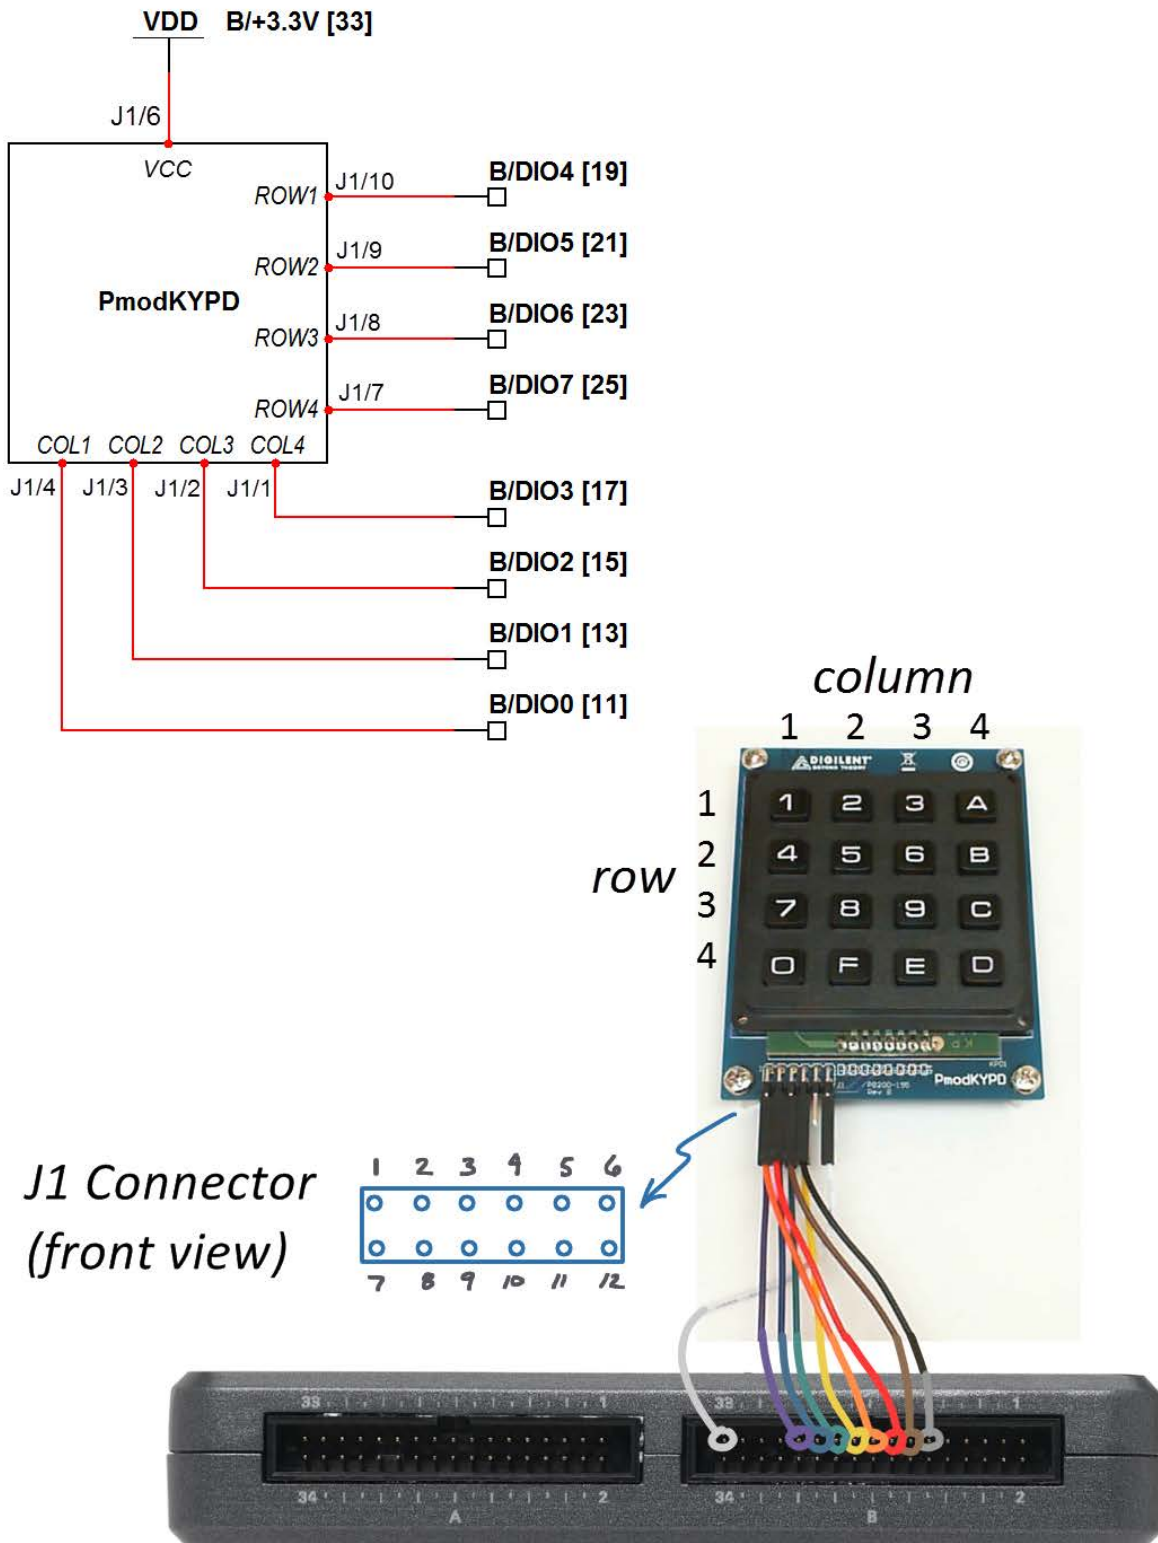

Figure 25.2: Demonstration setup for keypad connected to NI myRIO MXP Connector B.
**Build the interface circuit:** Refer to the schematic diagram shown in Figure 25.2 on page 115; the keypad requires three connections to NI myRIO MXP Connector B (see Figure A.1 on page 233):